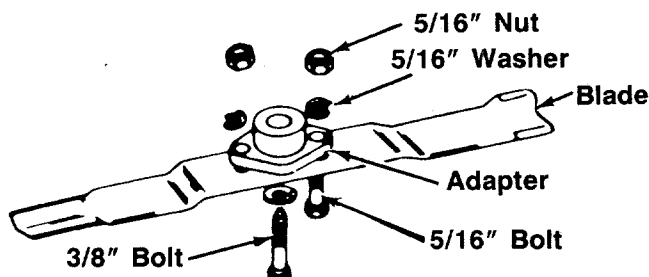

FIGURE 31.
1. Remove the large bolt and lock washer which holds the blade and adapter to the blade spindle. See figure 31.
3. If the blade or blade adapter needs replacing, remove the two small bolts, lock washers and nuts which hold the blade to the adapter. See figure 31.